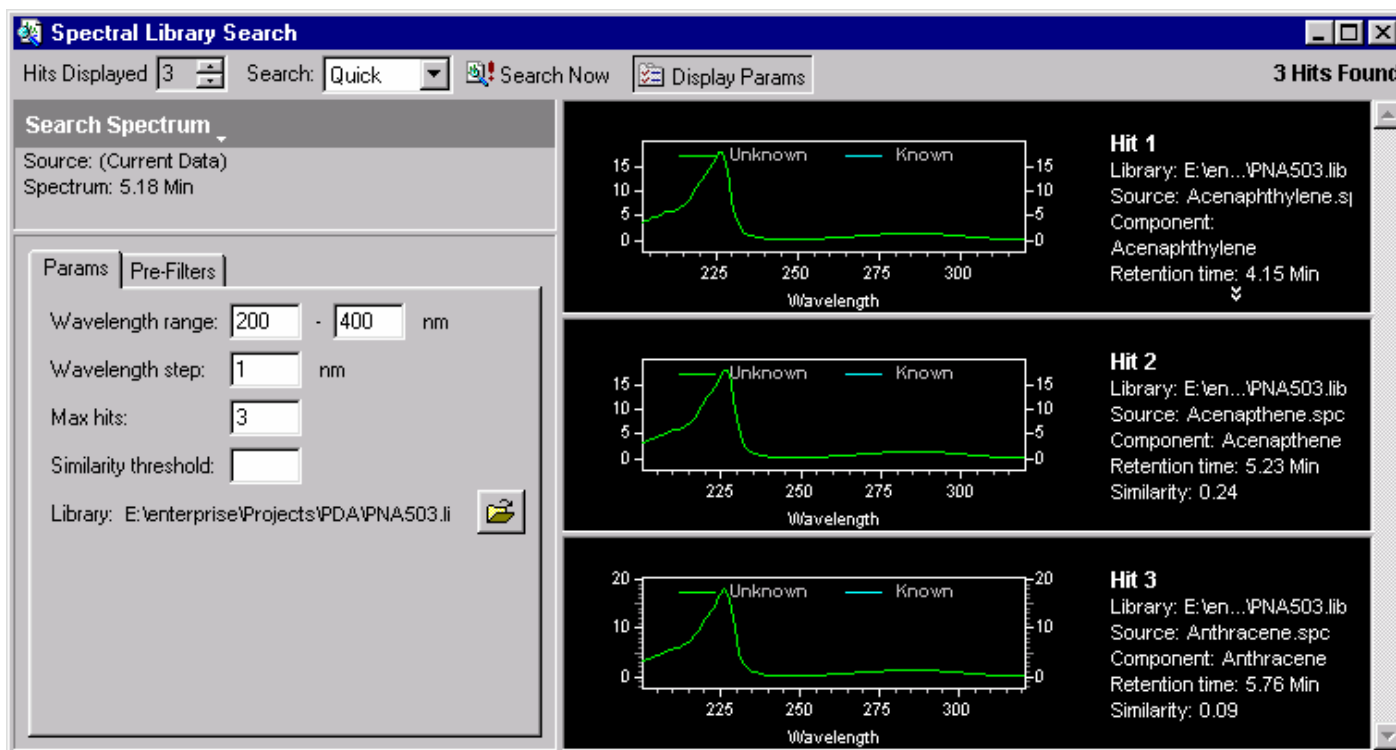

Figure 114. Spectral Library Search - Params dialog box
3. Using the contour plot in the Mixed View window, drag the vertical cursor to the apex of a peak to display the corresponding spectrum in the spectrum view (Figure 114). See also “Contour View” on page 157.